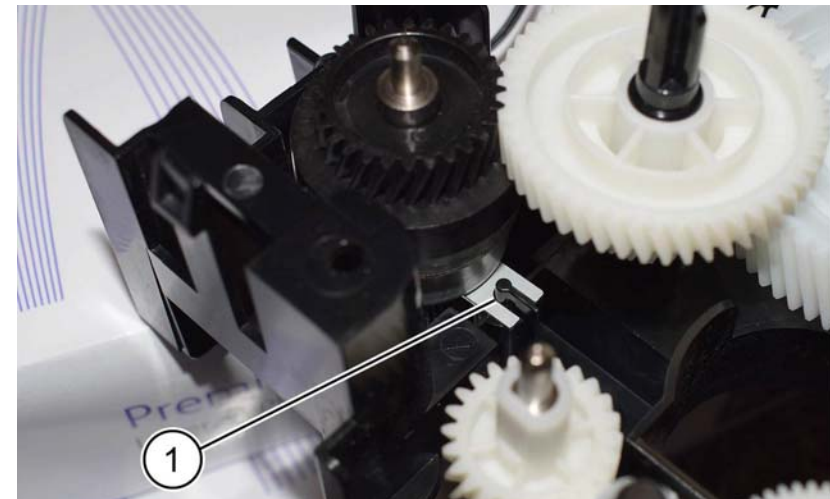

Figure 4 Clutch replacement
2. When installing the new takeaway clutch. Ensure that the two fingered bracket on the clutch is correctly positioned over the moulded peg (1) on the drive assembly, Figure 4.